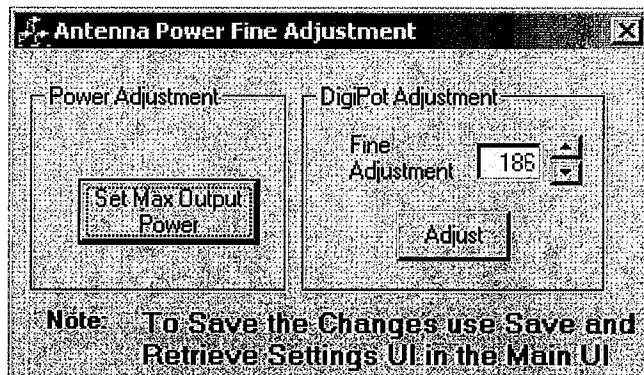

Figure 14
9.8.5 Press the “F9” key then select “Antenna Power Fine Adjustment” from under the Tools Menu. You will be prompted to enter a password. Enter the following “EZReader” (case sensitive) then click “OK”. You should now have the “Antenna Power Fine Adjustment” screen shown in Figure 14.